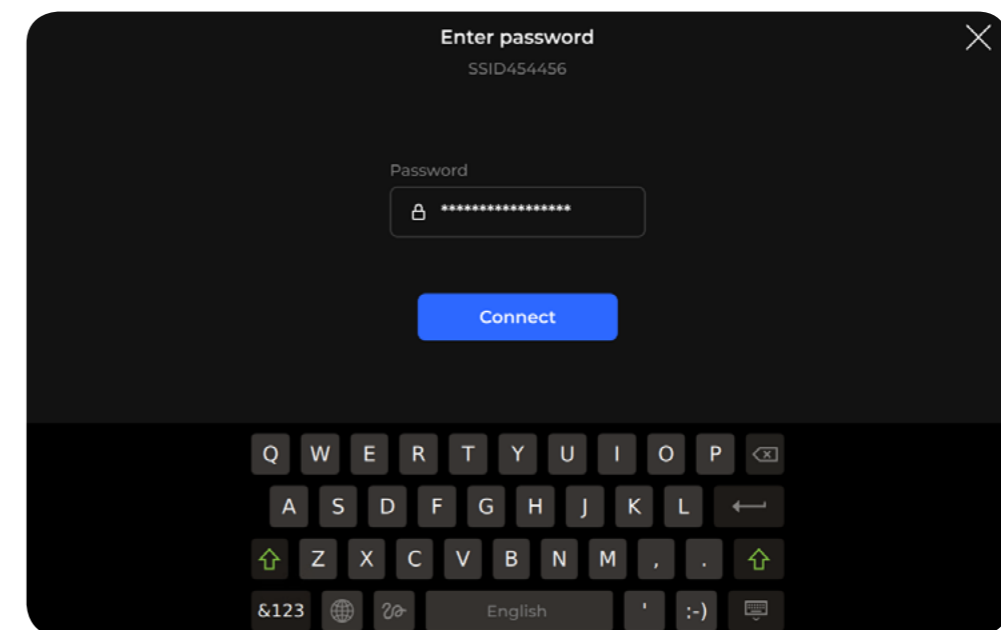

Fig. 9 Wireless network password field
1. For wireless connection, specify the name (SSID) of a wireless network. Tap the Search button and select one of the available networks from the list. Afterward, enter your network password in the Enter password field (Fig. 9).